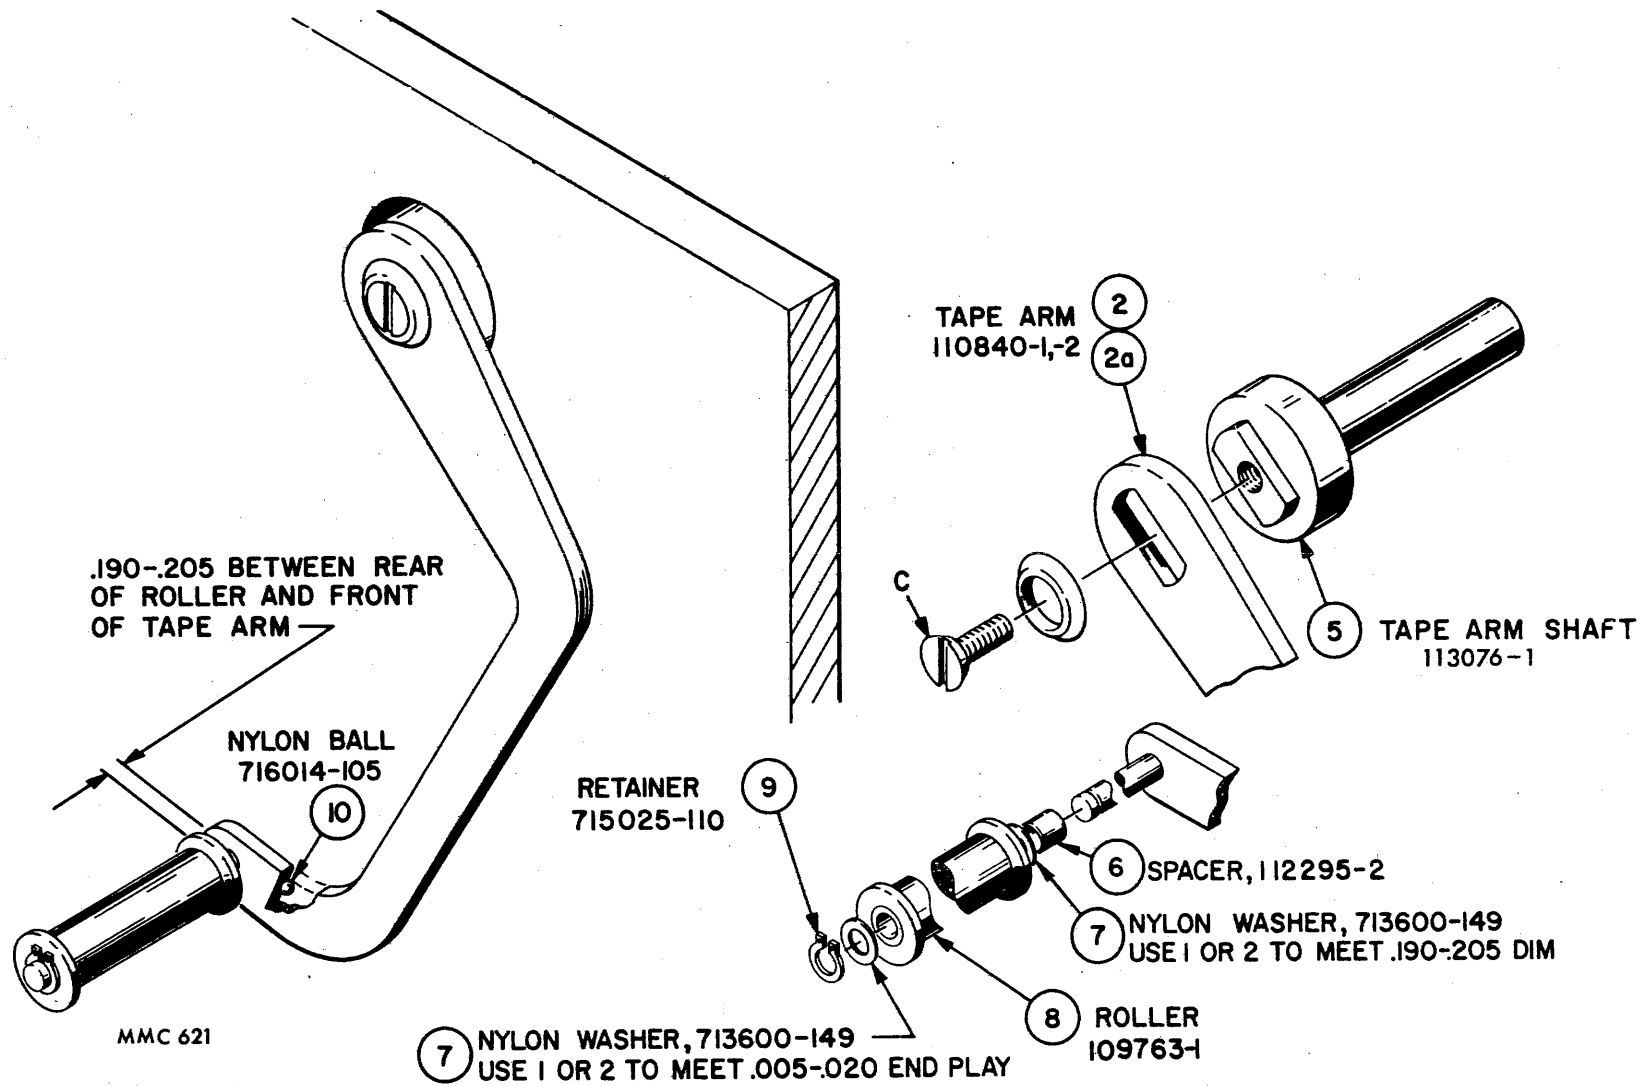

Figure 6-1. Tape Arm Assembly. Item no. 6 has been deleted on later models.
- b. Remove the 6-32 x 3/8 flat head screw (C) which holds the arm assembly to the tape arm shaft. See Figure 6-1.
- e. Reassembly is the reverse of steps c, b and then a. When installing the roller, make sure the distance between the front of the arm and the rear of the roller is between 0.190 and 0.205 inches as shown in Figure 6-1. This is accomplished by placing 1 or 2 washers, (REMEX Part No. 713600-149) between the spacer and the roller to obtain the desired dimension.